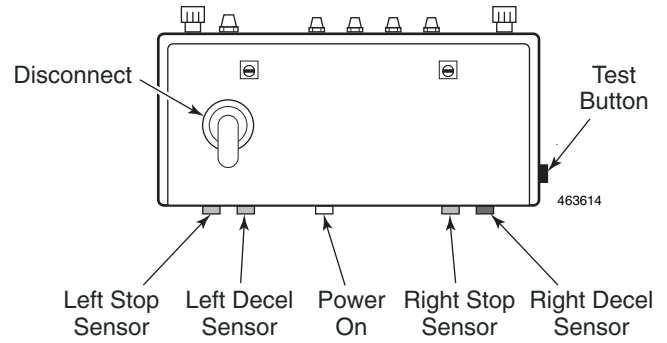

Figure 34
- Check the Control Panel; if the Close Stop Sensor red light is ON, the Stop Sensor has been reached and the Door has stopped too soon. Move the Sensor Bracket toward the motor and re-test. See Figure 34.